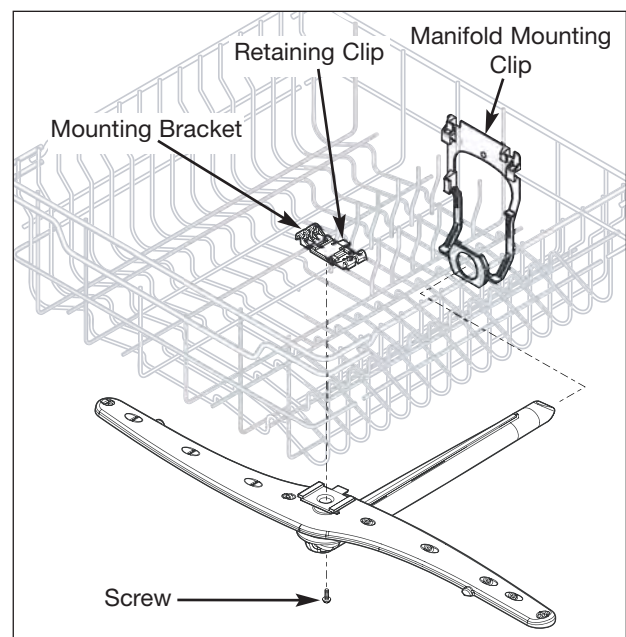

Figure 5-17. Stainless Steel Filter Removal
2. Using a #10 Torx bit, extract the screw securing the center spray arm to the spray arm assembly. (See Figure 5-17)